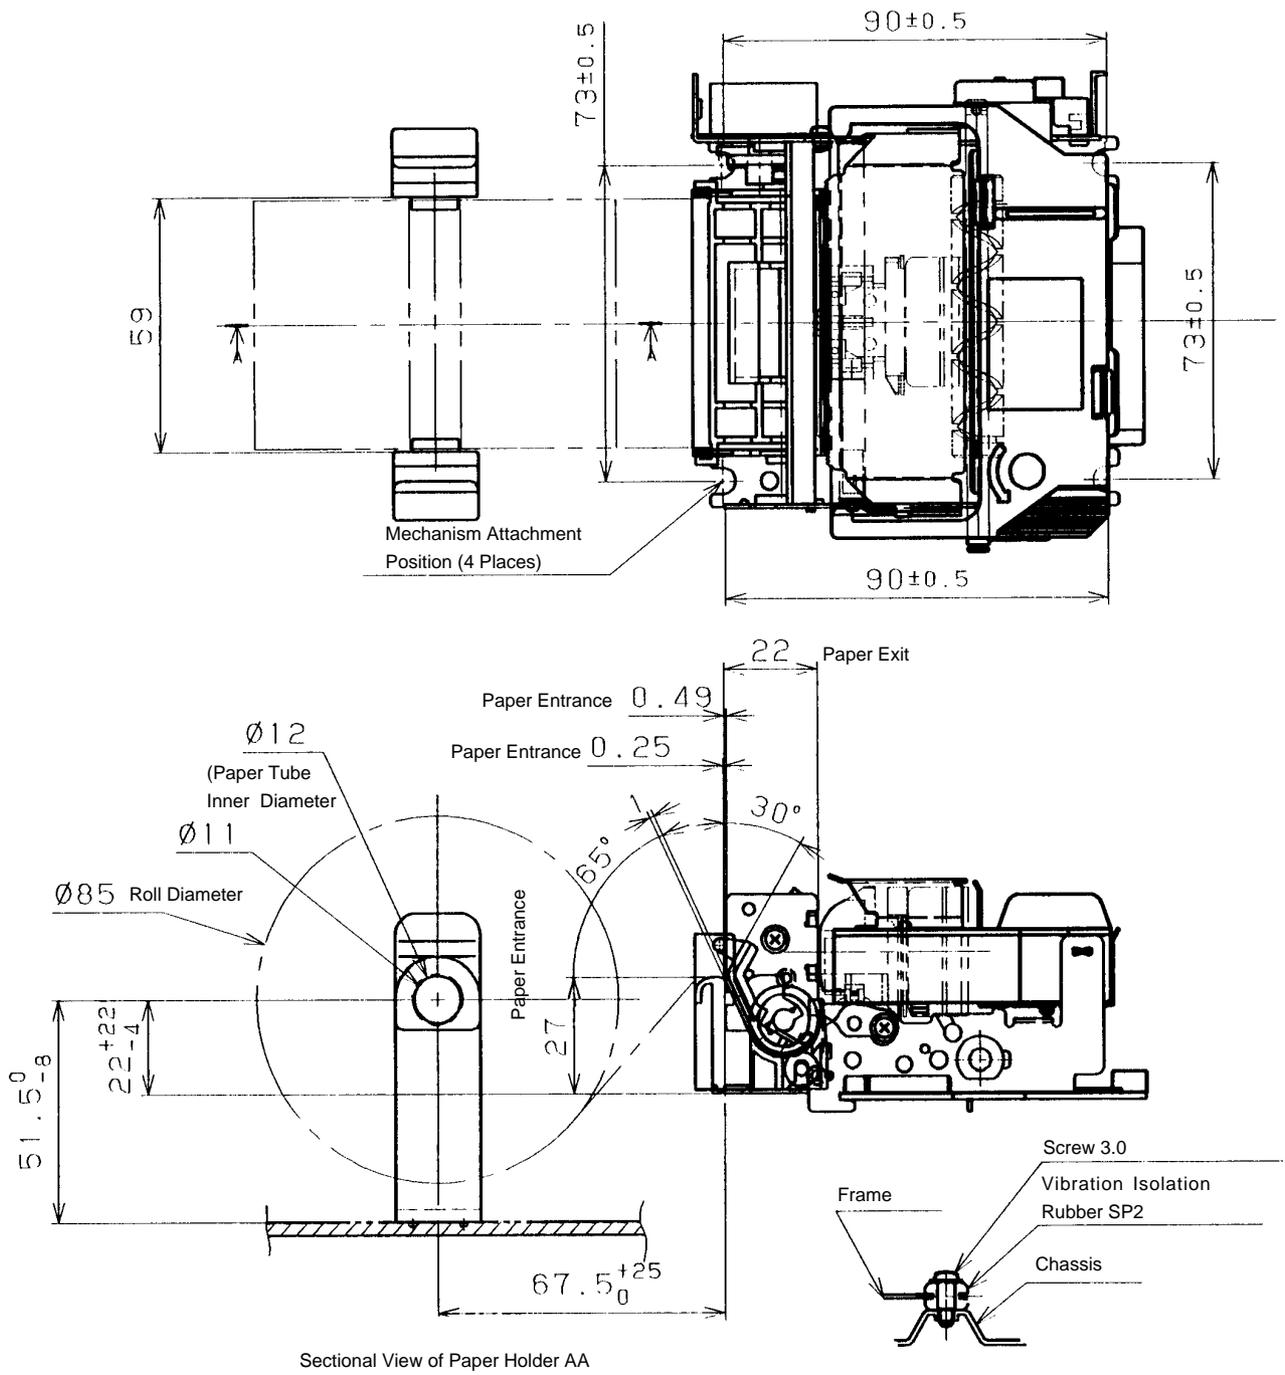

Fig. 7-3 Installation space (example) (unit: mm)
- Allow needed space surrounding the printer. Fig. 7-3 shows an example of installation space.